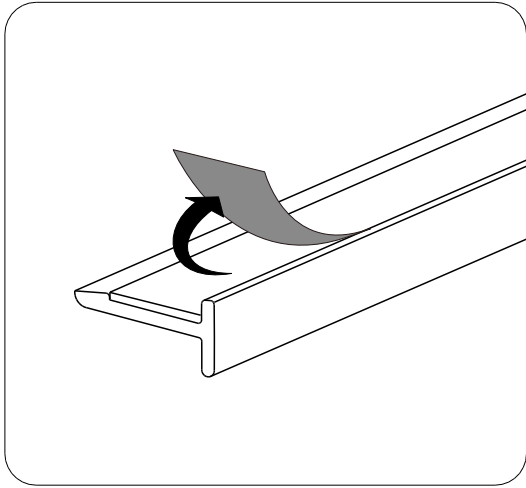
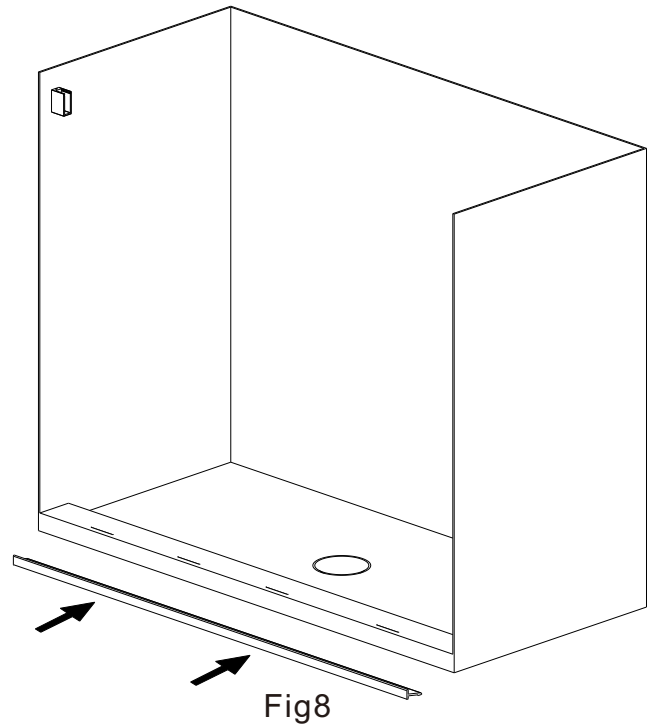

Fig7
Fig8
1. Tear off the tape from the **Bottom Rail [03]** (Fig 7). Place the **Bottom Rail [03]** onto the **marked position** on the threshold (Fig 8).